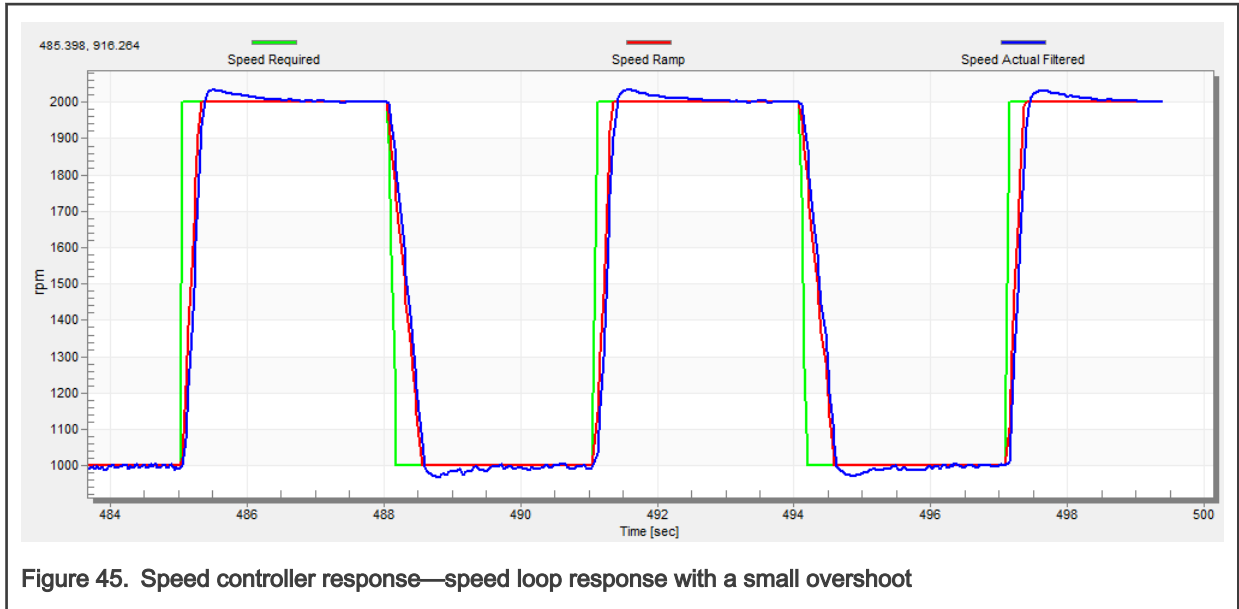

Figure 45. Speed controller response—speed loop response with a small overshoot
- The speed loop response has a small overshoot and the “Speed Actual Filtered” settling time is sufficient. Such response can be considered optimal (see Figure 45).